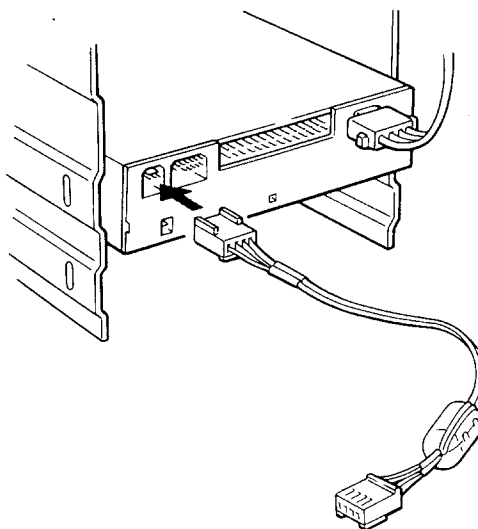

Figure 4-2. Attaching the Audio Connector Cable to the Drive (Model CDU-531 Drive Shown)
- 1 Attach one end of the cable to the CD-ROM drive. For proper attachment, position the cable connector as illustrated in Figure 4-2.